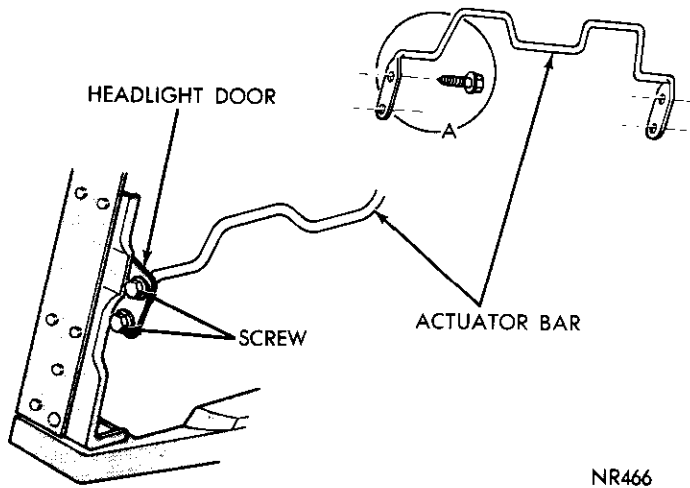

Fig. 21—Door Actuator Bay Attachment
- (1) Install headlight door actuator bar outer side upper attaching screw, circle "A" (Fig. 21) into actuator bar with head of screw on inner side of bar and threaded end facing outward toward door mounting screw hole area.
- (2) Position headlight door on pivots and install retainers.
- (3) Insert protruding threaded end of screw, in-